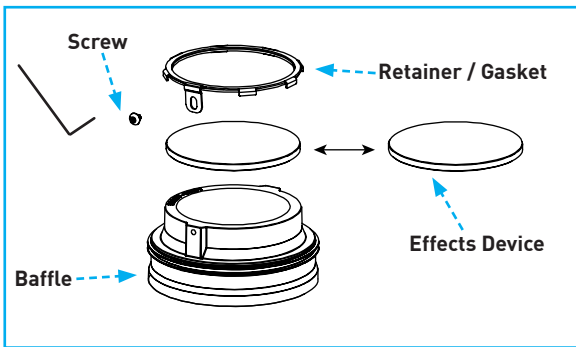

Fig.63
- Grasp baffle using soft gloves or with clean soft cloth and remove by pulling down or inserting small flat head screwdriver to wallwash baffles and carefully prying down as shown in *Fig.63*.
- To change lens / film, remove lens retainer and gasket by loosening and removing hex screw with the provided Allen wrench. Insert preferred lens / film in proper orientation, securing with lens retainer / gasket and replacing and tightening screws (Fig.63). Lens is not serviceable on wet rated baffle assemblies.